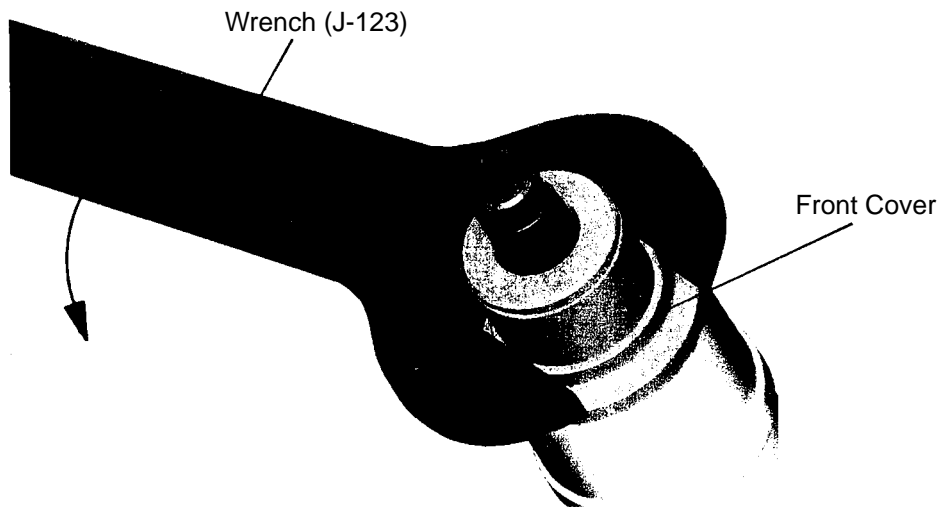

Fig. 13
After removal of Grip (C) [8], secure the main body. Put the wrench (special repair tool J-123, Code No. 970885) on the width across flat portion of the Front Cover [10] and turn it counterclockwise to remove the Front Cover [10] (Fig. 13).
Remove the grease from the First Gear [42] side of the Crank Case Ass'y [35]. Then, use a bearing puller (Special repair tool J-30, Code No. 970804), to remove the First Gear [42]. (Fig. 13)